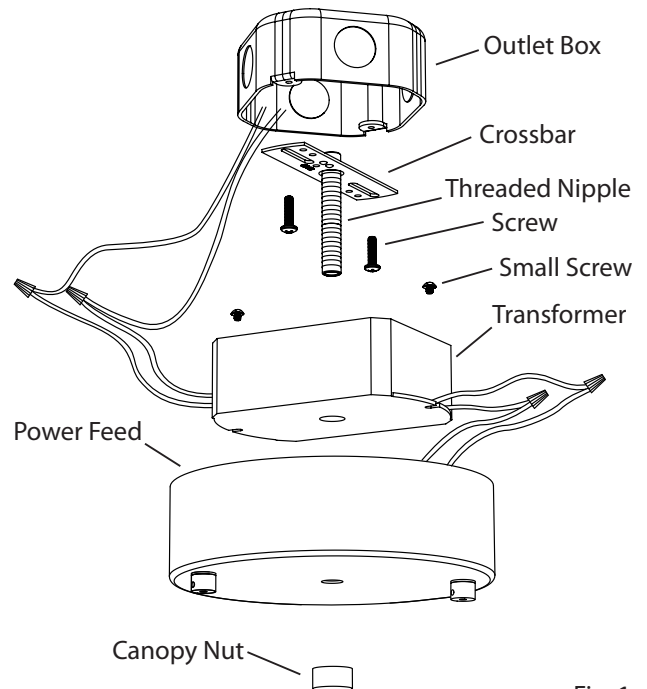

Fig. 1
Deep Power Feed Installation (Fig. 1):
3. Cut an opening in the mounting surface (minimum 3/8" thick) that measures 1.5" wide by 2.75" high (Fig. 1).
4. Pull **1/2 trade size flexible metal conduit or building cable** through the opening (Fig. 1).
5. Remove the three **Phillips Screws** and separate the Minibox into **Upper** and **Lower Halves** (Fig. 1).
6. Remove the knockout tab from the **Upper Half** and attach the **Cable/Conduit** to the knockout opening using appropriate connectors (Note: Cable/Conduit and connectors not included) (Fig. 1).
- d. **For 60W and 75W unhooused Transformers only:** Carefully place connections and transformer in **Lower Half**, with the connections in the section near the knockout (Fig. 1).
9. Reattach upper and lower halves by installing the three **Phillips Screws** removed previously (Fig. 1).
10. Loosen the two **Mounting Screws** on the front face of the Minibox until the gap between the **Wing Tabs** and the **Side Tabs** is greater than the thickness of the mounting surface (Fig. 1).